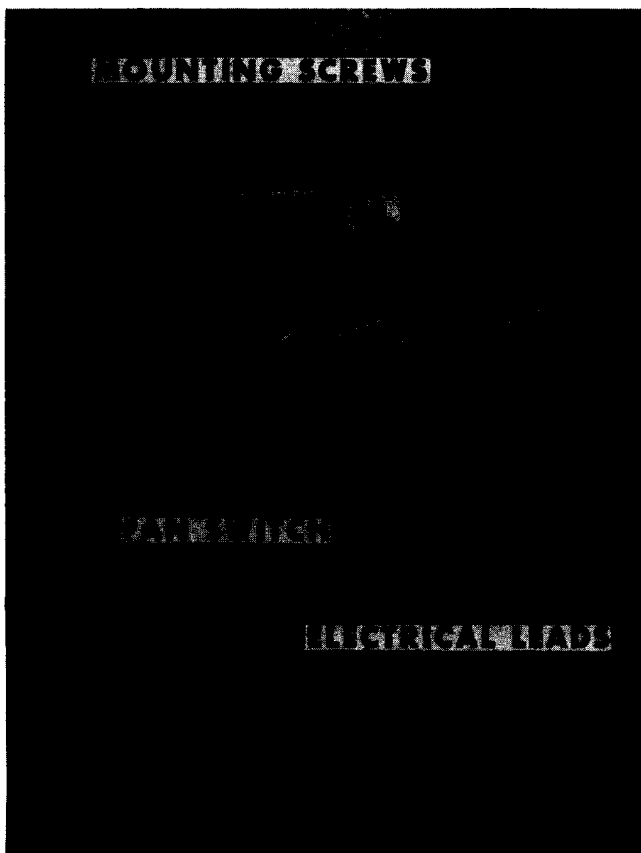

Figure 13 — Fan Switch Installed
3. Disconnect electrical leads from fan switch (Figure 13).
1. Locate fan switch on warm air housing (Figure 13). Retain switch in position with two mounting screws.